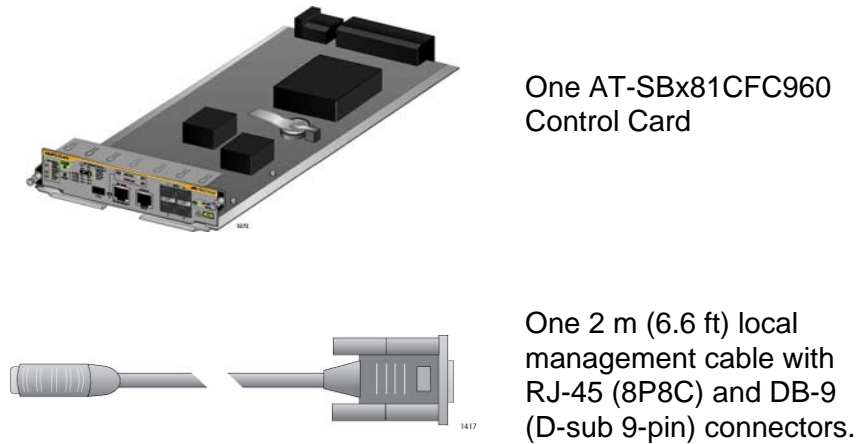

Figure 67. Items Included with the AT-SBx81CFC960 Controller Card
2. Remove the new AT-SBx81CFC960 Controller Fabric Card from the shipping package and verify the package contents, listed in Figure 67 on page 141.